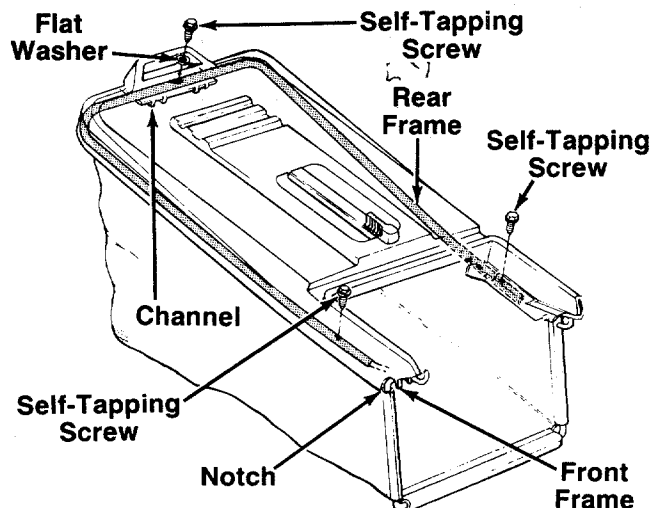

FIGURE 16.
4. Attach the hardtop cover to the grass catcher as follows. See figure 16.
- Attach rear of cover to frame using the flat washer and one self-tapping screw as shown in figure 16. Attach the sides of the cover to frame with the other two self-tapping screws.